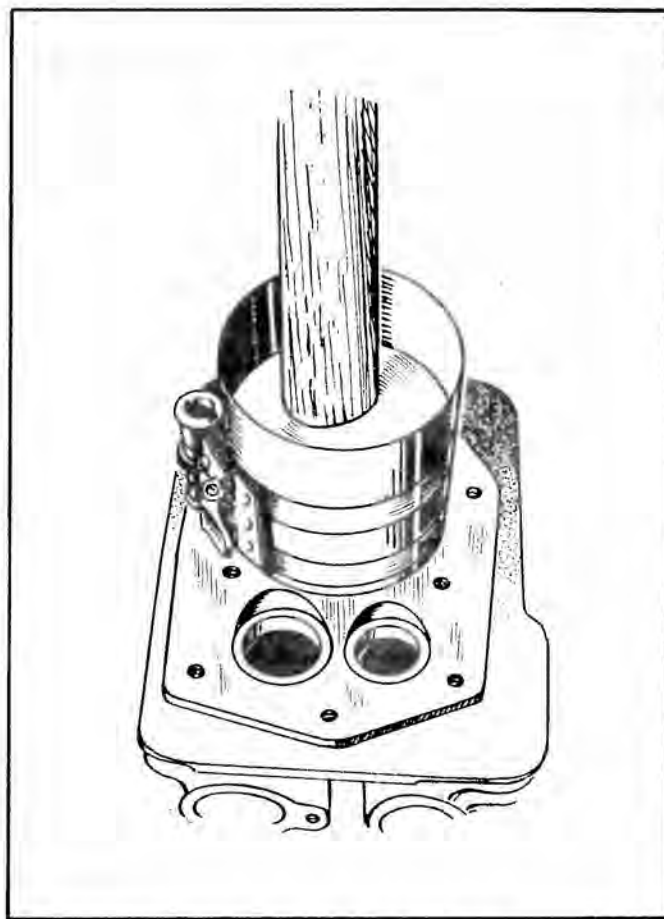

FIGURE 44. INSTALLING PISTON
2. Lubricate the number one piston assembly and inside of the cylinder. Compress the rings with a ring compressor as shown in Figure 44.
4. Tap the piston down into the bore with the handle end of a hammer until the connecting rod is seated on the journal (Figure 44). Install the bearing cap on the rod with the witness marks and stamped reference numbers matching the marks on the rod. Install and tighten the bolts to the specified torques.